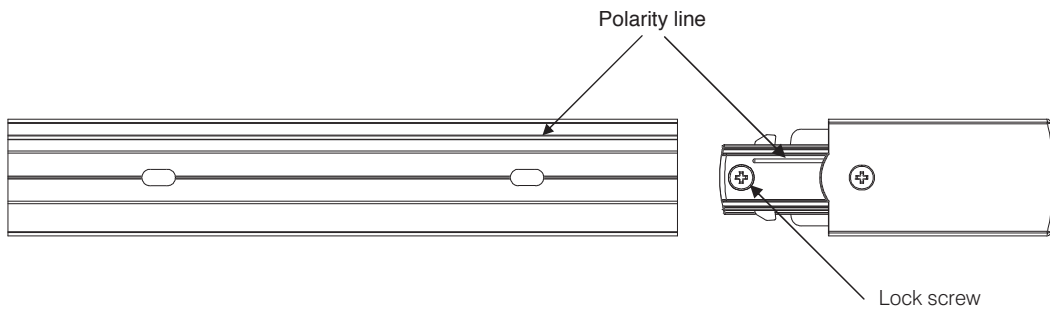

Figure 1
- c) Starting at one end, begin to assemble the track, section by section, while using your selected hardware to attach the track and connectors to the ceiling. (Basic track and component assembly is done by sliding power feeds and/or connectors into the track fully while observing polarity. See Figure 1 below. Be sure to lock the components together by tightening the lock screw, but do not over tighten.)